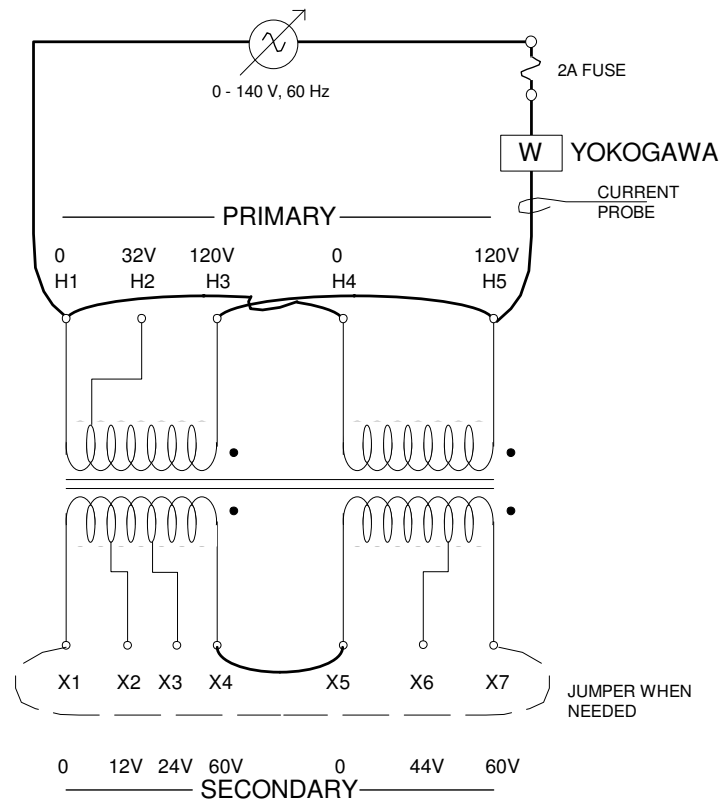

Figure 4. Transformer Connections for Step #3.
1. Use the 2.0 A fuse box between the voltage source and the transformer, as shown in Figure 4.
3. Connect the wiring of the single-phase two-winding transformer, as shown in Figure 4.